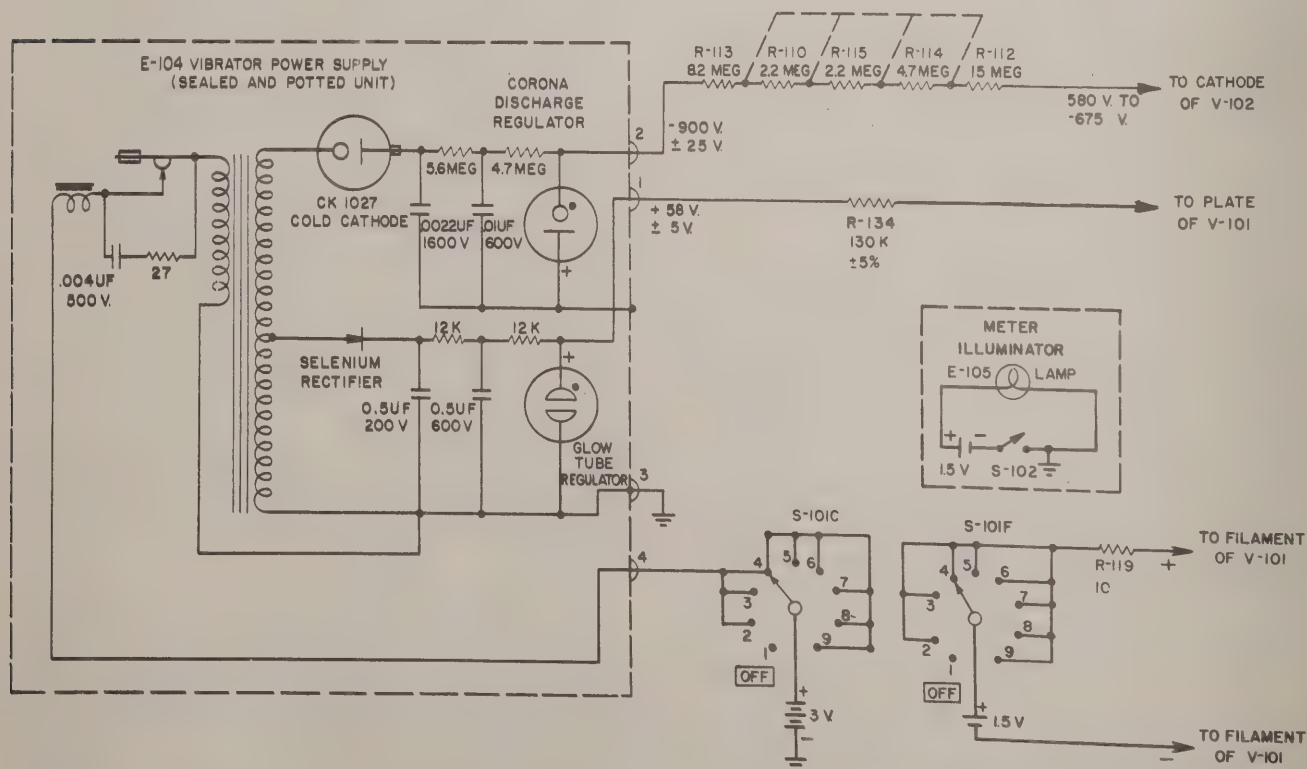

Figure 2-3. Radiacmeter IM-75/PDR-18A, Power Supply Circuits, Simplified Schematic Diagram
(1) The power supply circuits of Radiacmeter IM-75/PDR-18A are shown in figure 2-3. High voltage for the photomultiplier tube V-102 and B+ voltage for tube V-101 are supplied by a vibrator power supply, E-104. Power supply E-104 is a hermetically sealed and potted, replaceable unit. Primary power is supplied by four 1.5-volt dry cell batteries connected in series-parallel to yield 3 volts, which is applied at terminal 4 of E-104. The current from the batteries causes the vibrator to alternately open and close its contacts and this in turn causes the current flowing in the primary of the transformer to rise and fall, thereby inducing an alternating voltage in the secondary. The purpose of the .004 uf condenser and 27-ohm resistor is to minimize sparking across the contacts.
(2) The stepped up voltage induced in the whole secondary of the transformer is rectified by the type